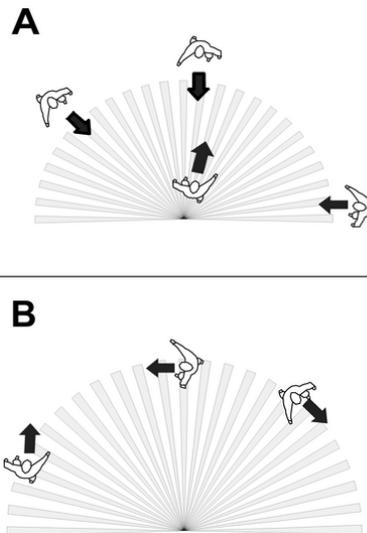

Figure 7: Detection area dependent on the direction of movement
- i** Observe the direction of movement: A distinction is made between Approach A and Transverse B (Figure 7). Motions that are transverse to the motion detector can be detected more better than motions towards or away from the motion detector.